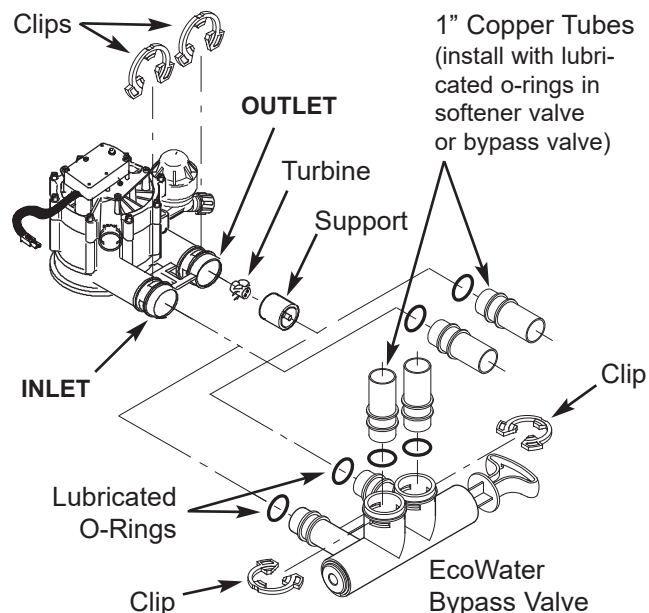

FIG. 6
- If installing a single bypass valve, push the bypass valve, with lubricated o-ring seals in place, into the valve inlet and outlet ports (See Figure 6).
- If installing a 3-valve bypass system, slide copper tubes, with lubricated o-ring seals in place, into the valve inlet and outlet ports, respectively (See Figure 6).